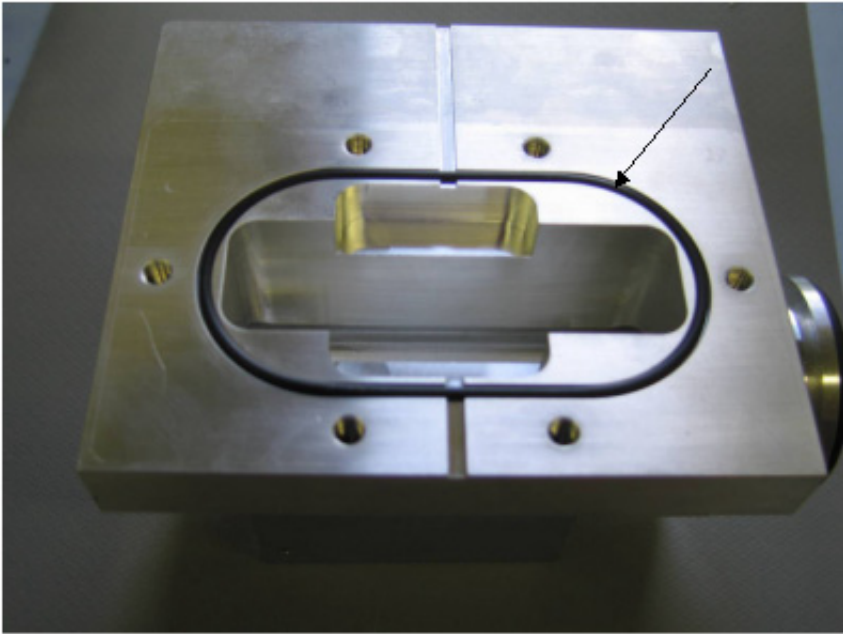

Figure 8: O-ring
9. Remove the O-ring and discard (Figure 8: O-ring).